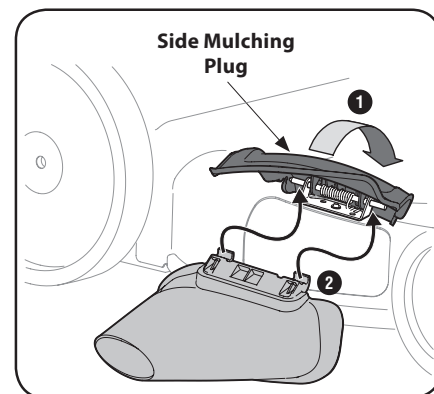

Figure 3-5
1. On the side of the mower, lift the side mulching plug. See Figure 3-5.